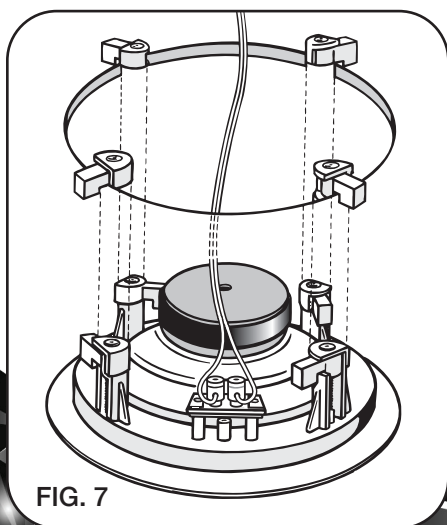

FIG. 7
6. See FIG. 7. With the speaker wire attached to the speaker, slide the speaker up inside the cutout hole. Center the speaker in the cutout hole and turn the four locking screws clockwise until the speaker is drawn up snugly to the wallboard from behind, clamping the speaker in place. Try to tighten each screw equally. Replace the speaker grille by gently placing it over the speaker until the magnets "grab" hold of the grille.